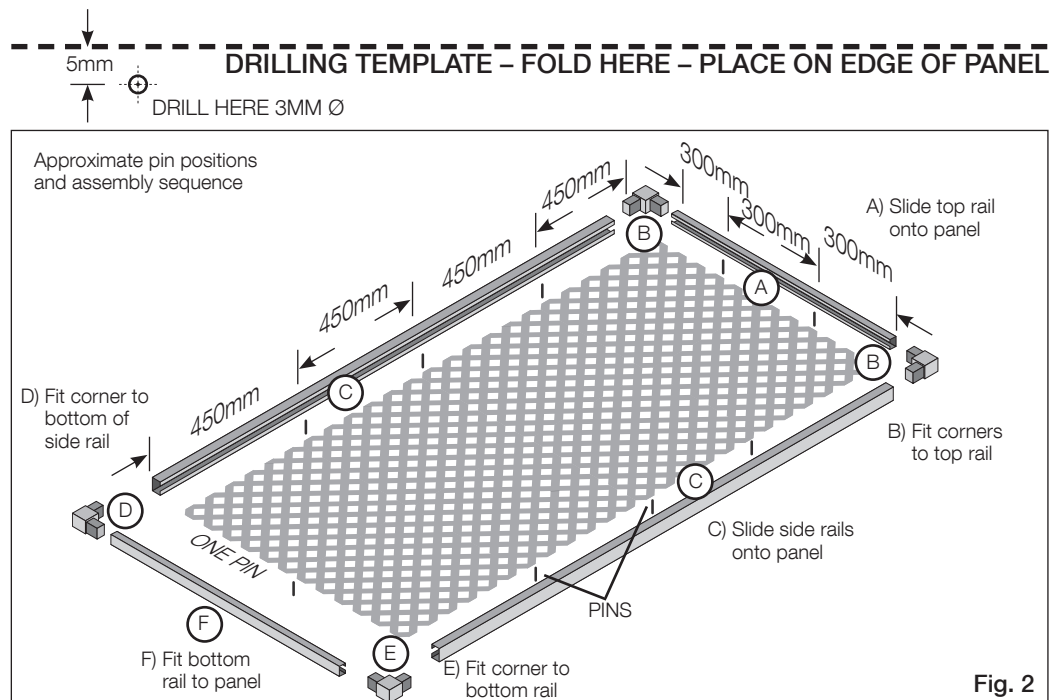

Fig. 2
- We recommend using at least three pins (evenly spaced - 450mm apart) on each long side and two pins (spaced 300mm apart) on the top short side. Only place one pin in the centre on the bottom edge (Fig. 2).